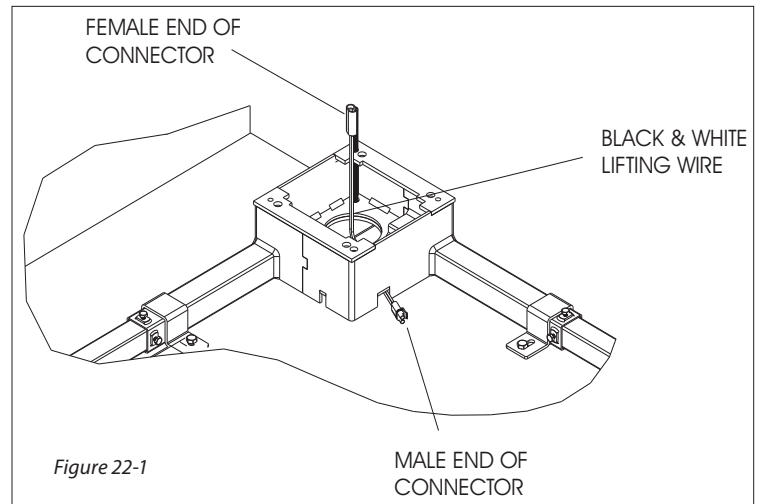

Figure 22-1
- 3. Install Motor Housing to the Base.** Before mounting the Motor Housing to the Base, feed the Lifting Wire (black & white) through the Base, [Figure. 22-1] Mount Motor Housing to Base being sure that the Lifting Wire comes through the Rotational Tube. Fasten tight with the supplied hardware (28-30 ft.lbs) using the 5/16 Allen Wrench and 9/16 Wrenches.